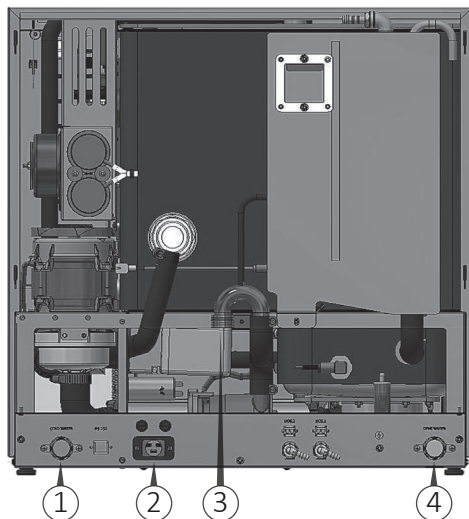

Fig. 8
- Make sure to connect the water flexible hoses in the positions shown in figure 8.
- Connect the cold water flexible hose to connection 1 in figure 8.
- Connect the purified water flexible hose (if any), to connection 4 in figure 8.
If not already connected, connect the grey drain pipe to the drain connection located at the back of the machine (3 Fig. 8).